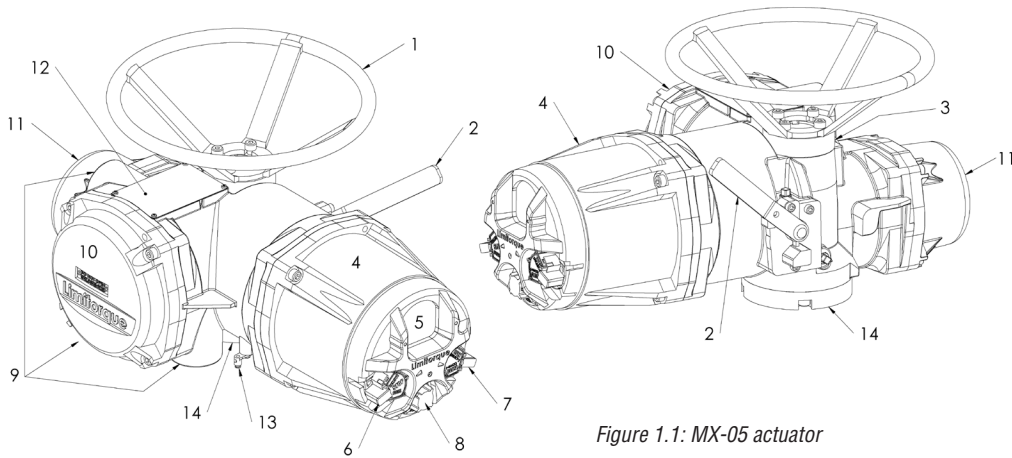

Figure 1.1: MX-05 actuator
- To install and commission the actuator, only the terminal compartment cover needs to be removed. See Figure 1.1, item 10. Settings for commissioning the actuator are done externally; therefore, no other covers need to be removed. The actuator was assembled in ideal dry conditions and the total sealing of the enclosure protects all electrical components against deterioration.